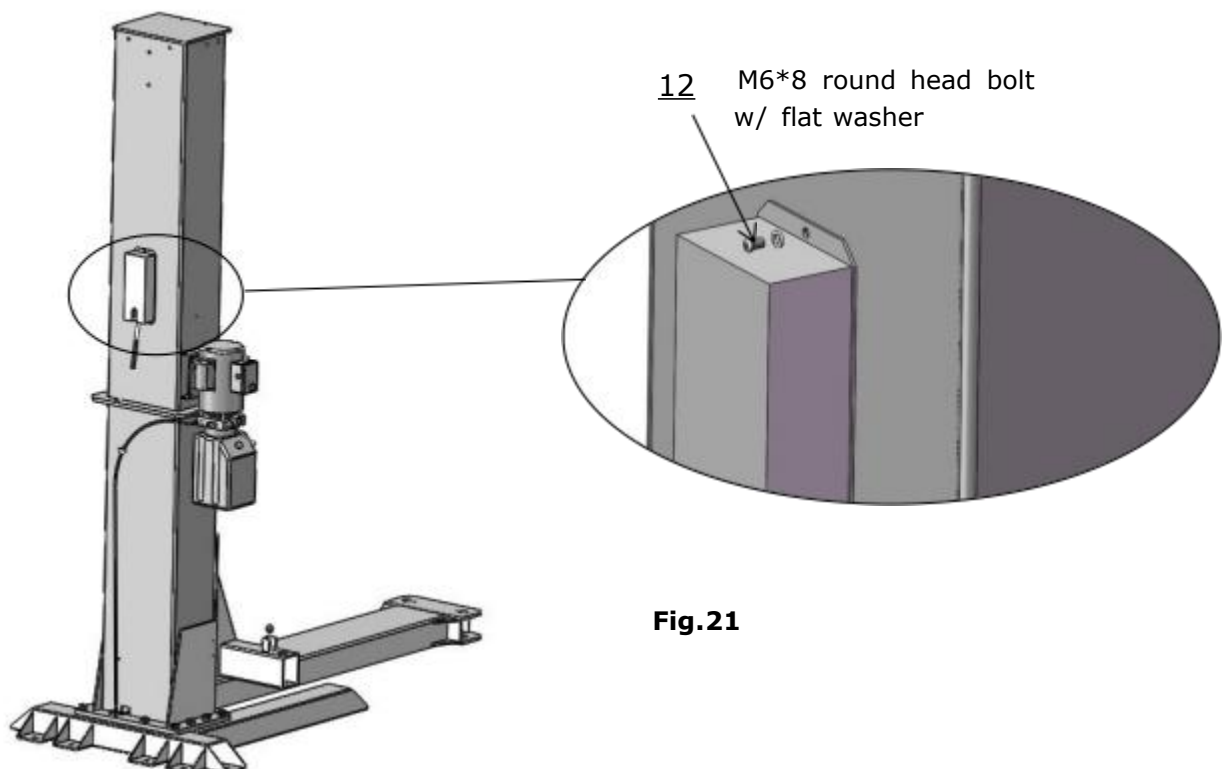

Fig.21
H. Install safety device cover (see Fig.21)